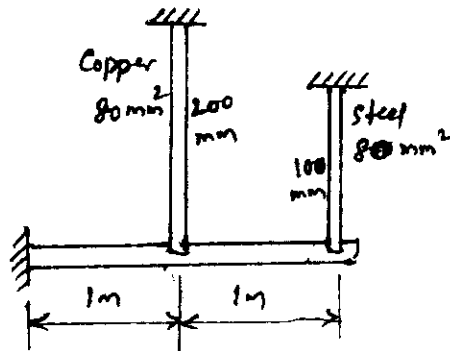

Fig.Q.2(b)
- b. A horizontal bar hinged at one of its ends is supported by two vertical bars as shown in Fig.Q.2(b). If the temperature of the vertical bars is increases by 40°C, determine the forces, stresses and deformations induced in them.